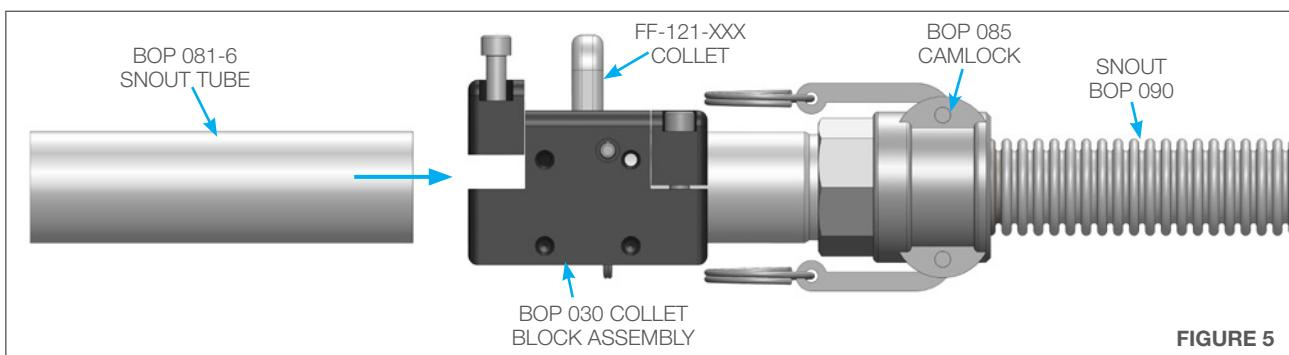

FIGURE 5
5. Push the back cover back into the closed position and secure the two Quick Release Pins on the top of the ABX-PRO AUTOBOX® PRODRIVE TRACTOR. (**Figure 5**)
5. Loosen the two screws on the collet cap block and slide the BOP 081-6 Snout Tube into the BOP 030 Collet Block Assembly. Push the Snout Tube until it stops in the Collet Block Assembly, then tighten the two screws securely. (**Figure 5**)
- Close the Hinge Clamp Assembly and tighten the Adjustable Handle. To Install the BOP 012 OPTIONAL Splash Plate loosen the two bolts on the collar, slide it onto the BOP 081-6 Snout Tube and hand tighten the collar bolts when in position. (**Figure 5**)